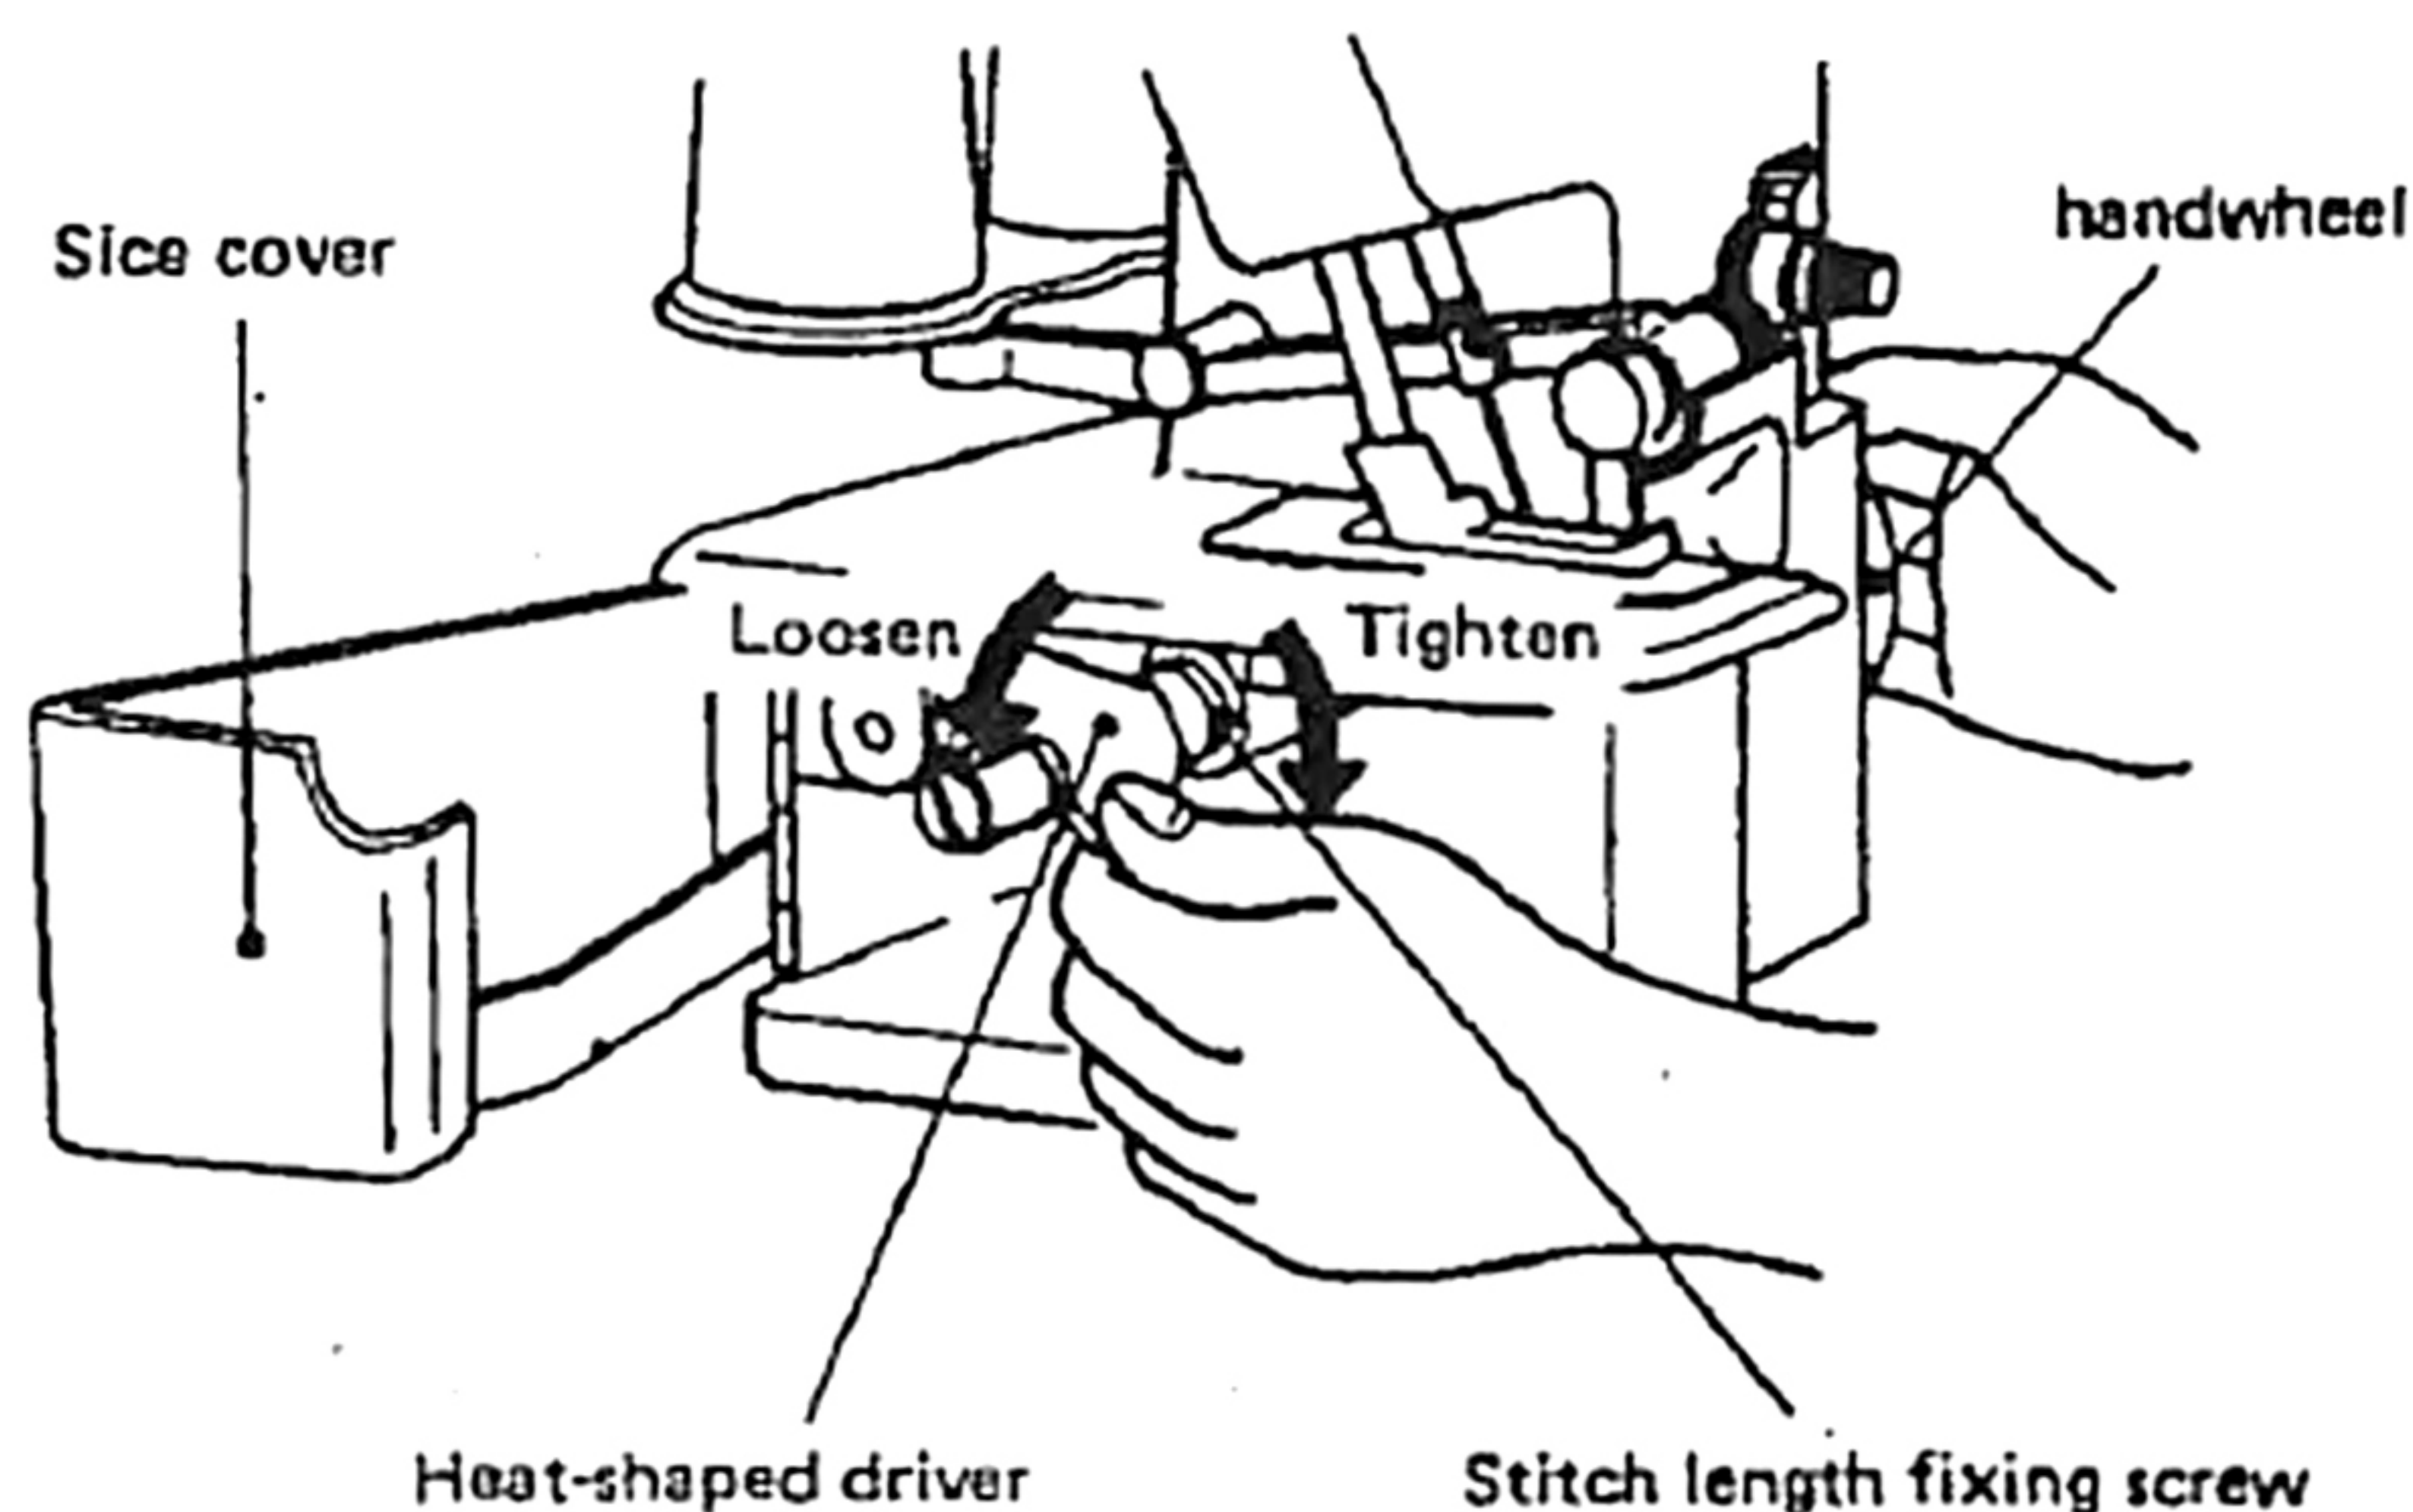

Figure 13
3. Loosen the stitch length fixing screw by heart-shaped driver (accessory), as you hold the handwheel tight with the right hand (Figure 13).